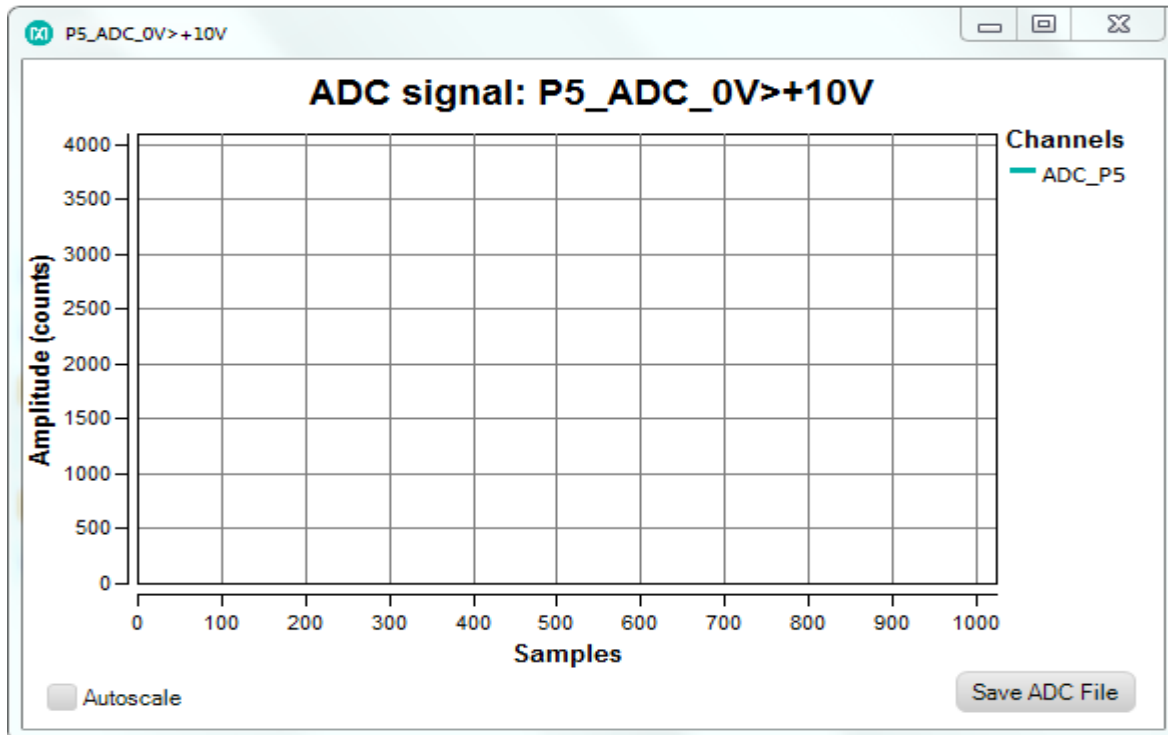

Figure 24. P5_ADC_0>+10V plot window.
2. In the drop-down menu at the top right, select **P5_ADC_0>+10V** and click the **Get plot box** button. A plot window opens and shows the analog level on the ADC as shown in **Figure 24**.